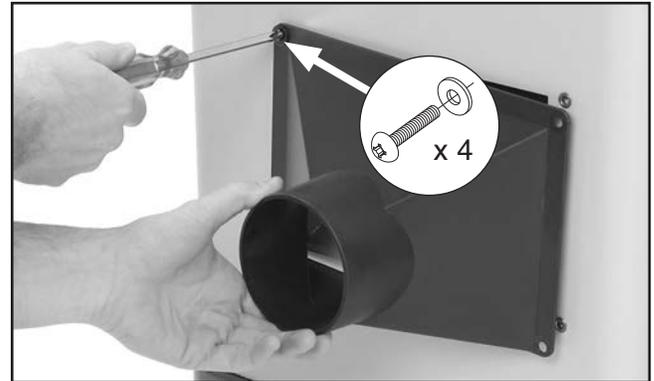

Figure 15. Attaching dust port to stand.
4. Attach dust port to stand with (4) M5-.8 x 10 Phillips head screws and (4) 5mm flat washers, as shown in **Figure 15**.